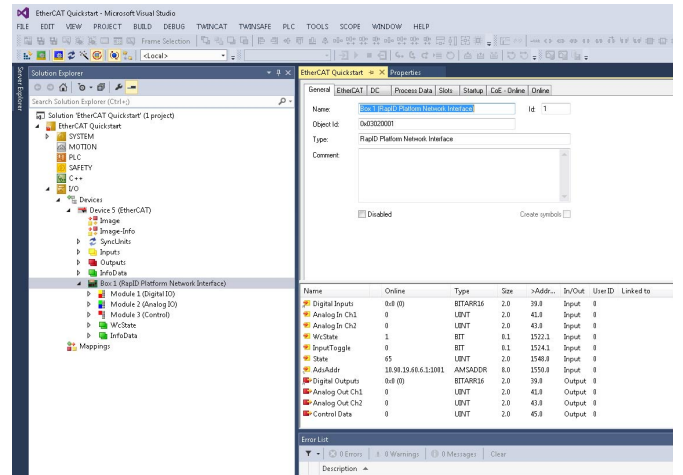

Figure 26. TwinCAT Home View
7. In the **Solution Explorer** pane, delete the **Box 1 (RapID Platform Network Interface)** node, right-click **Device 5 (EtherCAT)**, and select **Scan** (see Figure 25) to go back to the TwinCAT home screen (see Figure 26), where the **Activate Free Run** message now appears (see Figure 18).